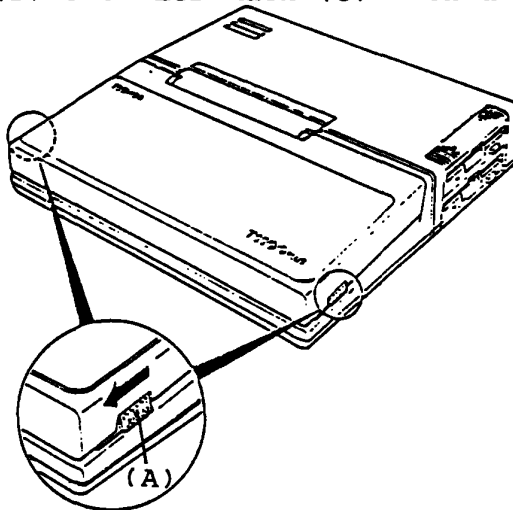

Figure 5-16 Opening the LCD
2. Replace the latches (A) by sliding them forward hold the latches and pull up the display, then open the LCD as shown in the figure 5-16.
3. Peel the seal (B) from LCD Mask (C) with a pair of tweezers and remove it.